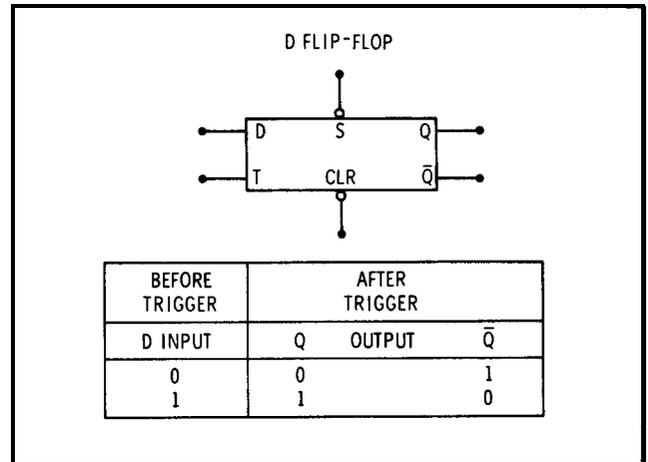

Figure 8-6. D Flip-Flop
8-47. D Flip-Flop. The D-type flip-flop, shown in Figure 8-6, is used as a storage latch or buffer. The information at the data input (D) is transferred to the Q output when the trigger input (T) is high-going. Once the T input has passed its threshold, the D input is locked out and the Q outputs do not change until another high-going transition occurs at the T input.